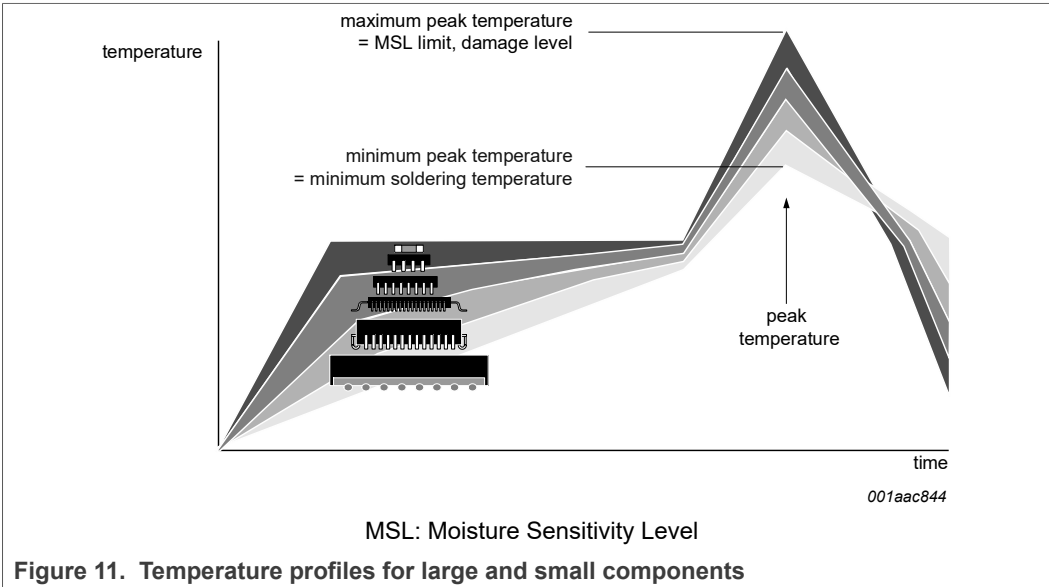

Figure 11. Temperature profiles for large and small components
- Lead-free versus SnPb soldering; note that a lead-free reflow process usually leads to higher minimum peak temperatures (see Figure 11) than a SnPb process, thus reducing the process window
Studies have shown that small packages reach higher temperatures during reflow soldering, see Figure 11.
| Fig. 4. | Enable time definition .....                                  | 7  | Fig. 11. | Temperature profiles for large and smallcomponents .....       | 17 |